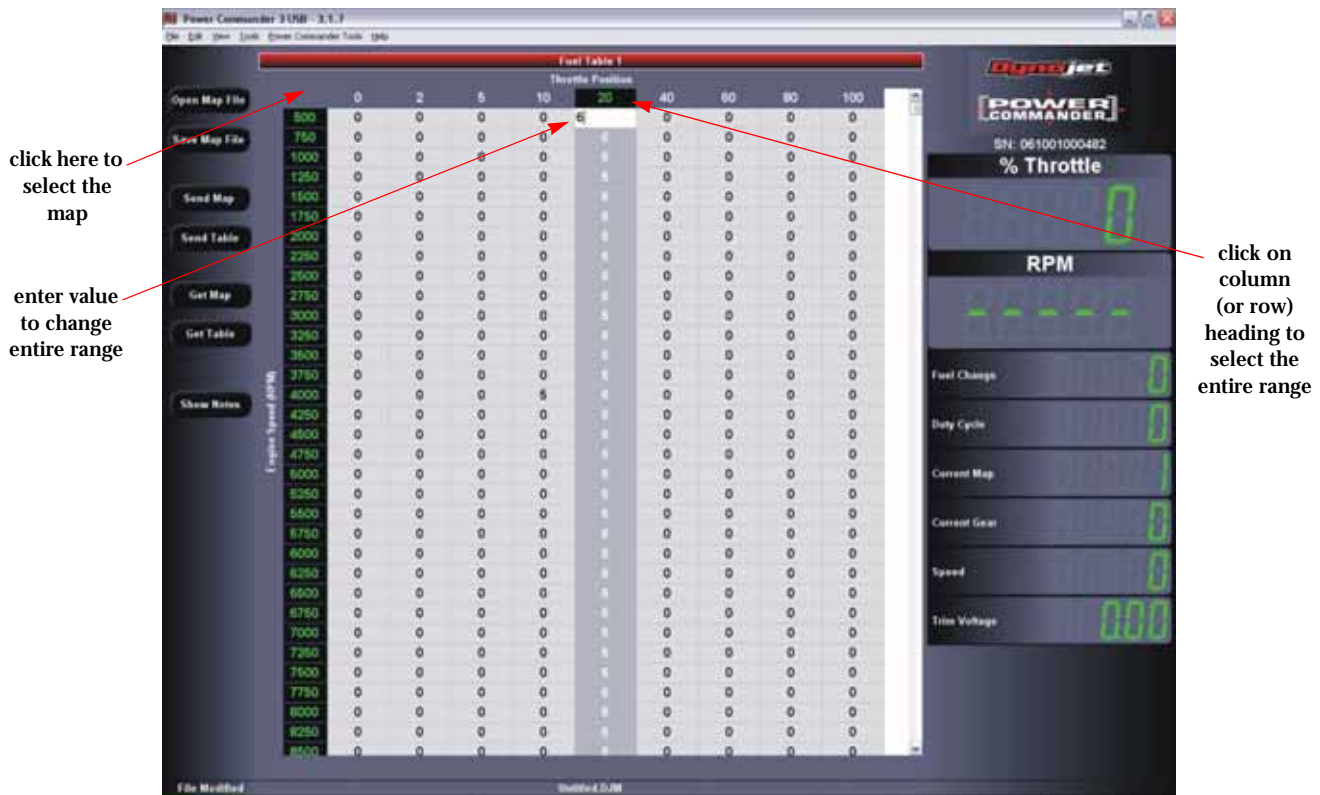

Figure 2-12: Increase Fuel by 6 Percent When Throttle Position is 20
- Click in the upper left corner of the map area as shown in Figure 2-12 to select the entire map.